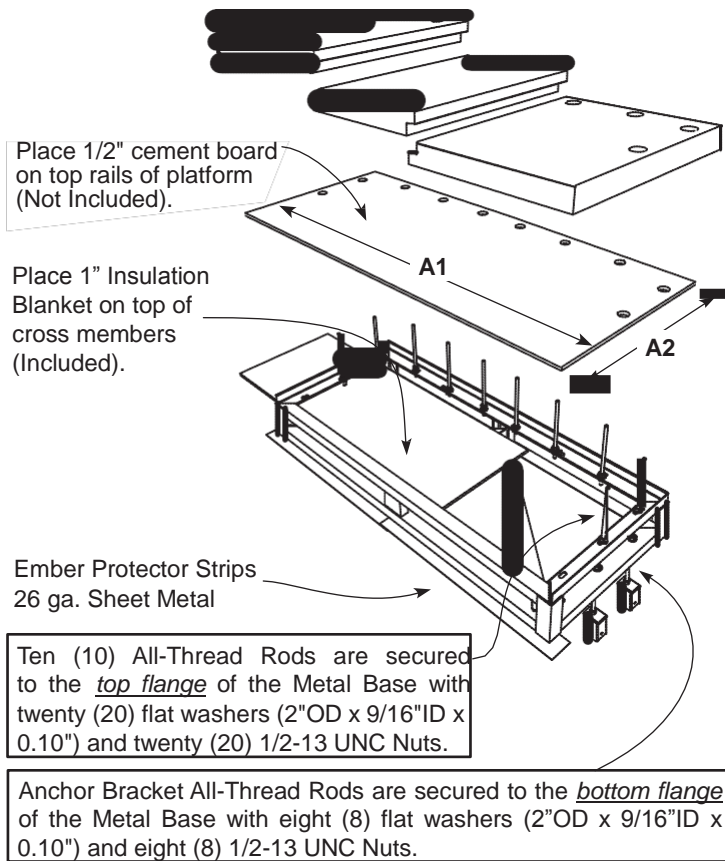

Figure 32 - MMB63 Metal Base Assembly
Attach the firebox side wall anchors to steel support frame by inserting all-thread rods through holes on the bottom flange on the steel support frame as shown in Figure 32 and 33, page 21. Secure with two \varnothing 2" o.d. x \varnothing 9/16" i.d. x 0.10" Washers and two 1/2"-13 UNC Nuts.
A layer of 1/2" minimum Cement Board (Not Included) is required on the top and mid section below as shown in Figure 32, page 21. The required sizes are shown in the table below.
a) **Combustible Floor Installations:** Mix up a batch of mortar and adhere hearth slabs to the cement board (see Figure 32 & 33, page 21). All-thread rods should stick up through the holes on the hearth slabs.